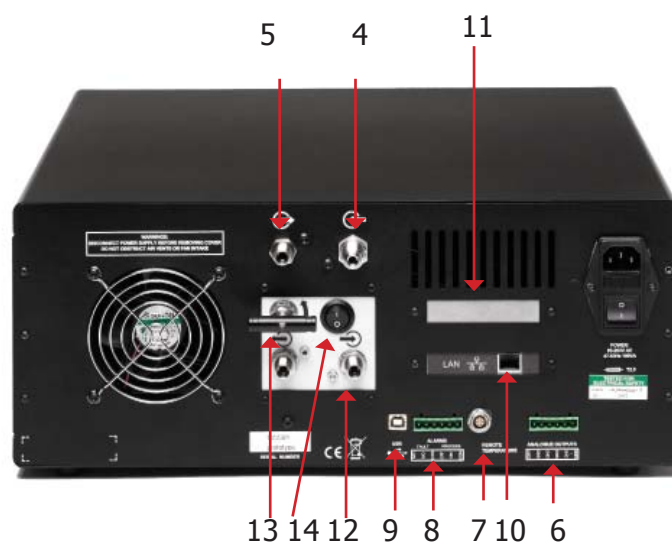

Figure 5 Rear Panel
*Figures 5 and 6* show the layout of these controls for both the rack mount/horizontal and vertical versions of the instrument. Tables 1 and 2 detail the controls and indicators and the function key operations.